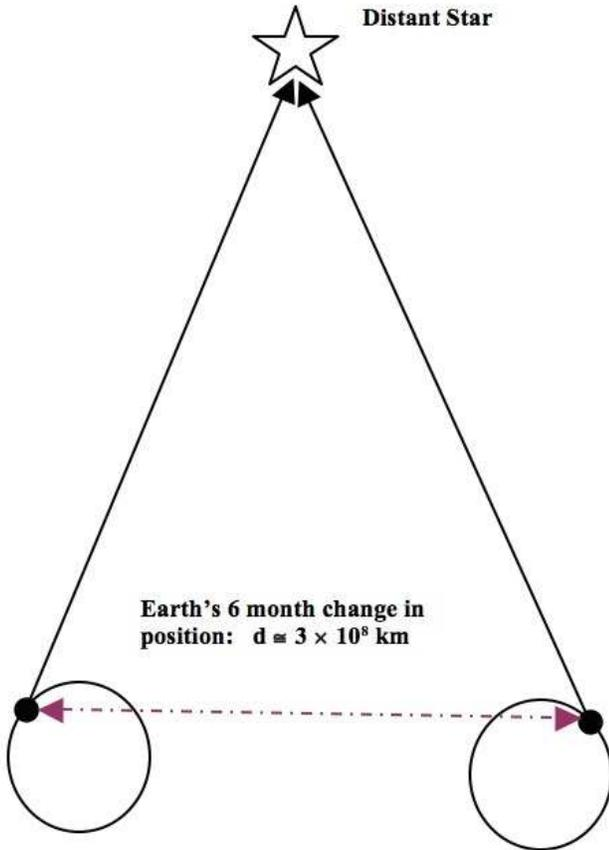
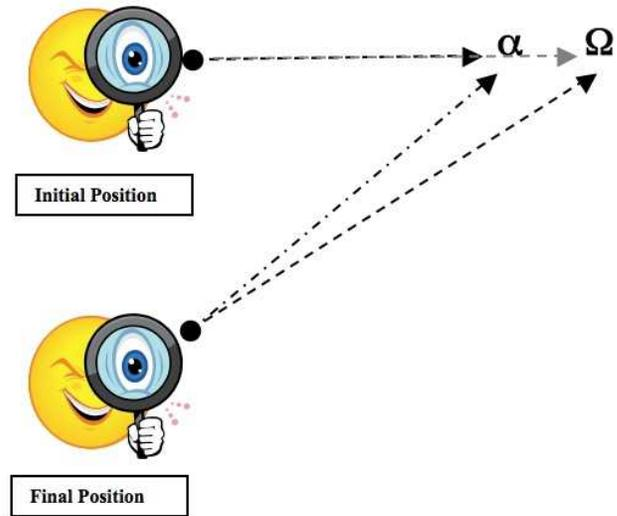

Figure 21.4: Parallax - One Object
Figure 21.5: Parallax - Two Objects
Parallax is the effect whereby the position or direction of an object appears to differ when viewed from different positions. This means that the object and the two observations points are not collinear. Fig. 21.4 and Fig. 21.5 represent the effect.
Consider two objects that are aligned from your initial position (they appear to be one object). When you change your position, each object will appear to be displaced but by a different amount. The objects appear to separate (Fig. 21.5). They are no longer aligned with your position.
4. For *Part 1*, you will use a *virtual image* (the mirror image of a pin); use the image of the white pin as the first object and a *real object* (a color pin) as a second object. If the second object is placed at a location other than the location of the first object, note that when you change your position there is a shift in the apparent position of the two objects. You will see two images (Fig. 21.5); they will not be aligned.